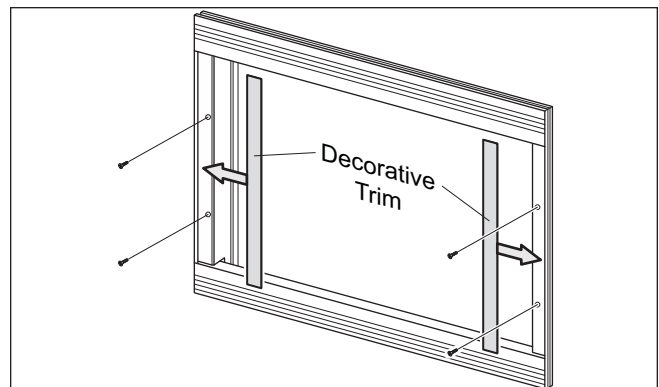

Figure 5. Attaching Decorative Trim Panels
- Attach the frame assembly directly to the cabinet frame, using four #6-18 x 1" wood screws. The inside edges of side frames should coincide with the edges of the cabinet cutout (See Figure 5).